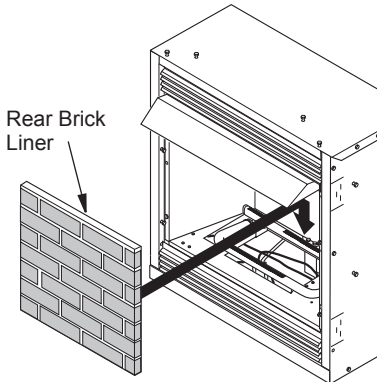

Figure 33 - Installing Rear Brick Liner
2. Place rear brick liner against back of firebox. The left and right brick liners will hold this liner in place (see Figure 33, page 21). Be sure to hold the rear brick liner while installing the sides so it will not fall forward.